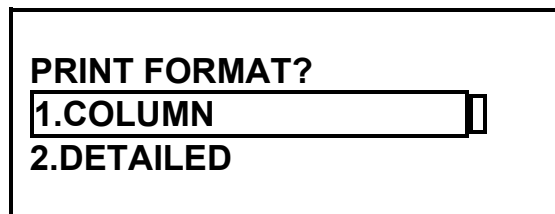
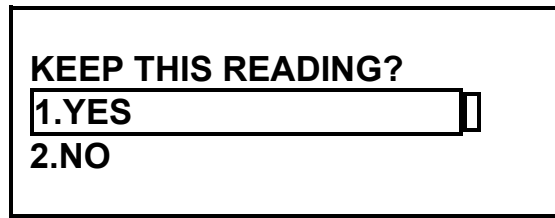

Figure 26.0 Print Format Menu
Figure 29.0 Keep This Reading Menu
- c. **Action Options:** Press key number 1 (“YES”) or push down the Control Knob to advance to the “Print Format Menu” (Figure 26.0). Press key number 2 to advance to “Keep This Reading Menu” (Figure 29.0). Number 2 may be selected by turning the Control Knob, then pushing down on the Control Knob after 2 is selected.
- e. **Results of Action:** Once the desired print format is selected the test results are printed and the LCD displays the “Keep This Reading Menu” (Figure 29.0).
- b. **Origin:** This menu displays after the operator selects 1 (“YES”) from the “Keep This Reading Menu” (Figure 29.0)